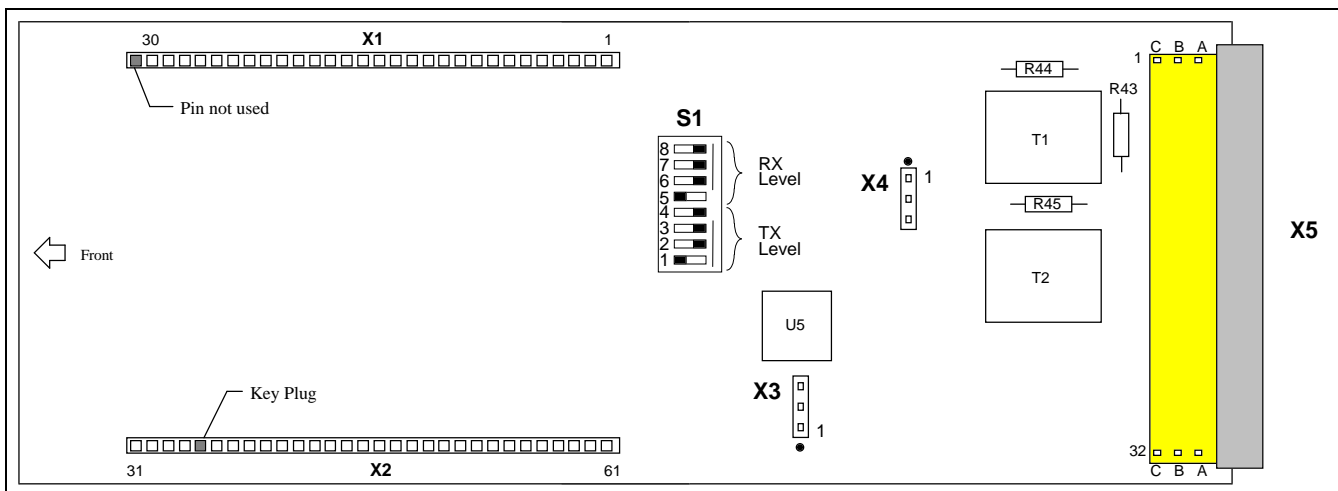

Figure 4 - RMIC Jumper Locations
1. Orient the RM so pin 1 lines up with the RMIC connector X1 pin 1 (see Figure 4).